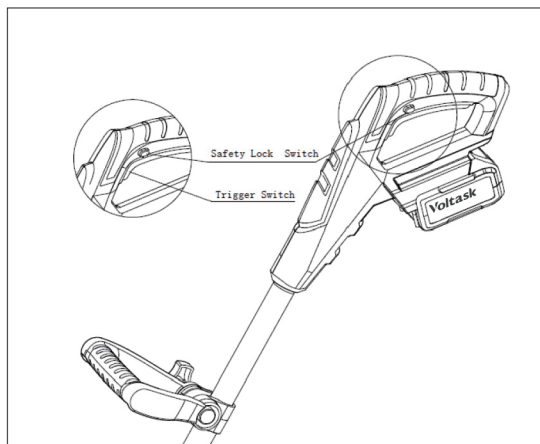

Fig. 9
2. To start the cordless snow shovel, push and hold the safety lock switch on the side of the handle with your thumb. Then, squeeze the trigger switch with your fingers. Once the machine powers on, you can release the safety lock switch and proceed with operation. (Fig.9)